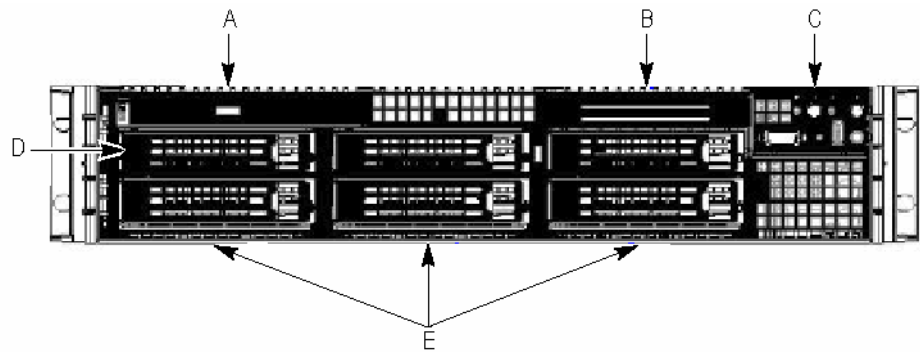

Figure 1. PQA front view - Storage media locations
1. Remove the instrument snap-on front bezel. The hard drives are located at the instrument front; see Figure 1, page 5, items D and E.
1. Remove the instrument snap-on front bezel. The slimline DVD/CD ROM drive is item A in Figure 1, page 5.
Key to Figure 1: